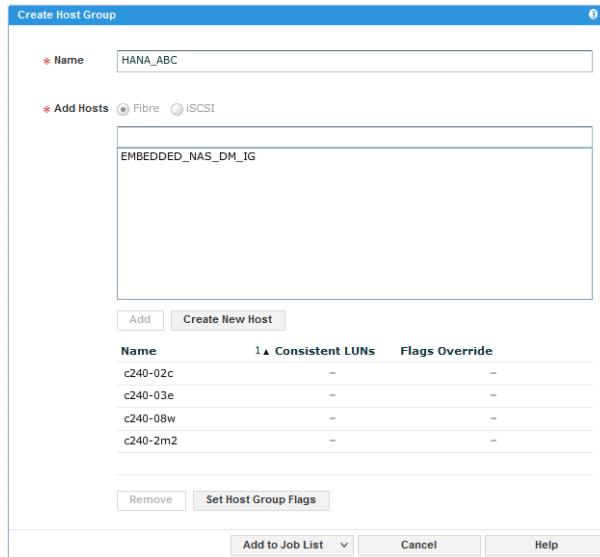

Figure 12. Creating host groups
2. Enter a name in the format `HANA_ABC`, select the hosts that belong to the SAP HANA cluster, and click **Add**, as shown in Figure 12.